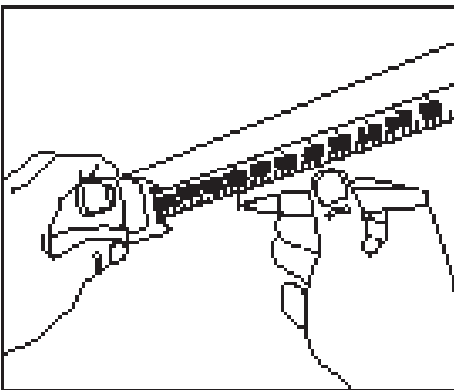

Fig.6
1. The hanger blocks **MUST** be mounted on the exterior wall of the RV directly beneath the awning hanger rail and opposite the corresponding holes previously drilled in the roller tube (**Fig.6**). Measure and mark the position on the RV wall for all Awnbrella arms.